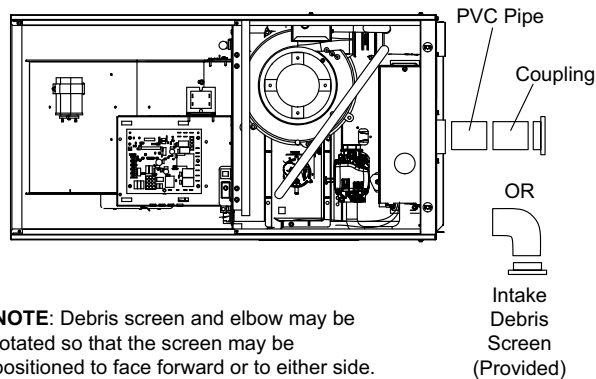

Figure 30.
See Figure 27 through Figure 30
1. Use field-provided materials and the factory-provided air intake screen to route the intake piping as shown in Figure 29 or Figure 30. Maintain a minimum clearance of 3" (76 mm) around the air intake opening. The air intake opening (with the protective screen) should always be directed forward or to either side in the upflow position, and either straight out or downward in the horizontal position.